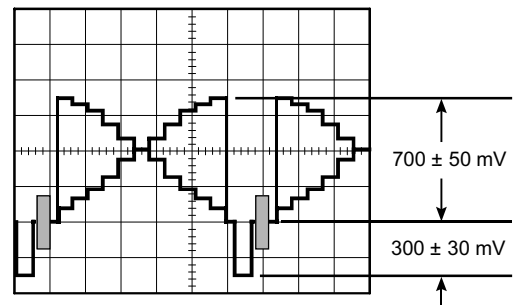

Fig. 4-11
- Adjust data with the **ARROW** keys so that the Video Output signal level becomes 700 ± 50 mV as shown in Fig. 4-11.